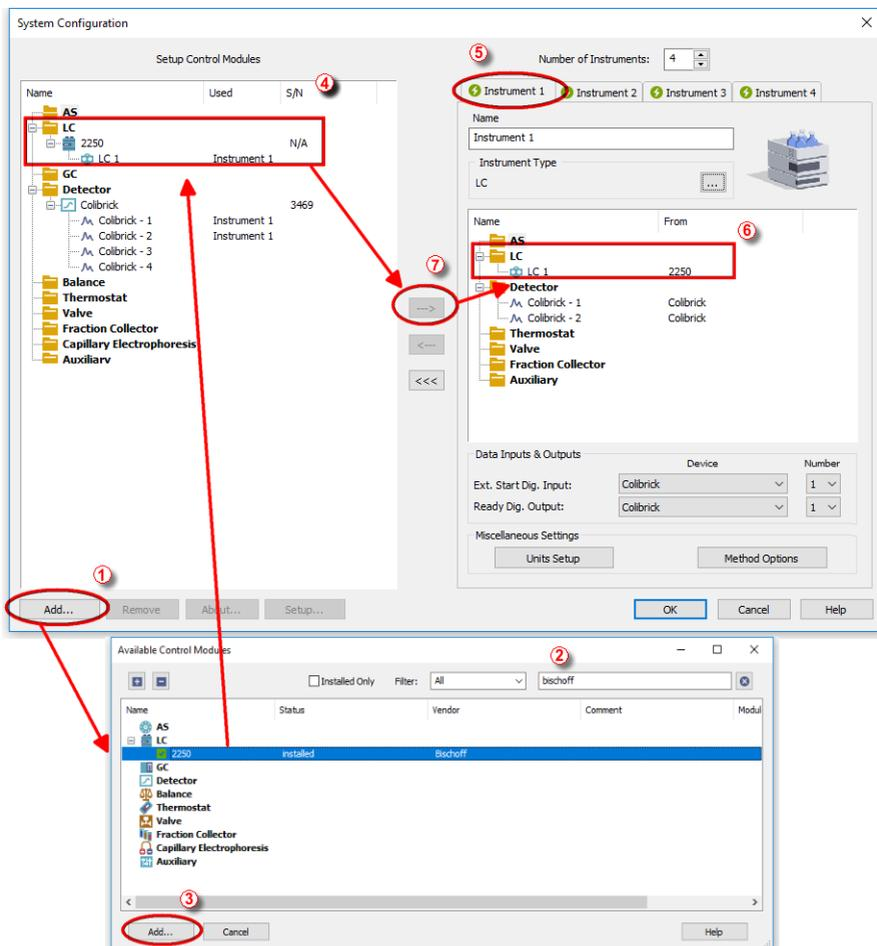

Fig. 3: How to add Bischoff 2250
- Press the **Add** button ① (see Fig. 3 on pg. 4.) to invoke the **Available Control Modules** dialog.
- You can specify the searching filter ② to simplify the finding of the driver.
- Select the **2250** pump and press the **Add** ③ button.